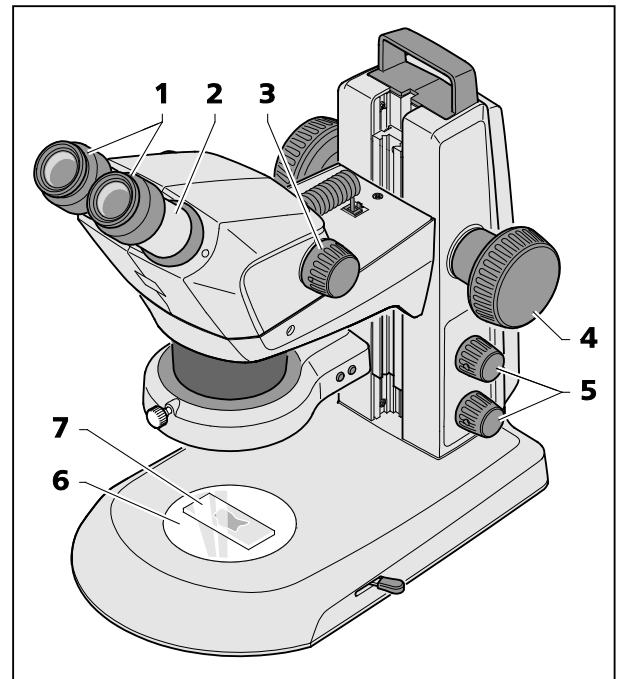

Fig. 18 Adjusting the stereo microscope
1. Place specimen (Fig. 18/7) centrally on the glass or plastic plate (Fig. 18/6) and illuminate it (Fig. 18/5).
2. Set diopter compensation on the adjustable eyepieces (Fig. 18/1) to "0".
3. Set individual eye distance by shifting the eyepiece tube laterally (Fig. 18/2), until only **one** complete light circle (specimen field) is visible when looking into the eyepieces with both eyes.
4. Initially, set the zoom (Fig. 18/3) to the smallest magnification.
5. Focus on a small distinct detail in the center of the specimen (Fig. 18/4).
6. Adjust maximum zoom value (Fig. 18/3). Magnification will probably make the distinct detail appear blurred and no longer in the image center.
7. Sharpen the specimen by focusing, then shift the specimen to re-search for the detail and focus "sharply" again (Fig. 18/4).
8. Afterwards, reset to the lowest zoom value and correct any image blurring for each eye separately by diopter compensation **on the adjustable eyepieces** (not on the focusing knob, Fig. 18/4) (compensation of visual defect).